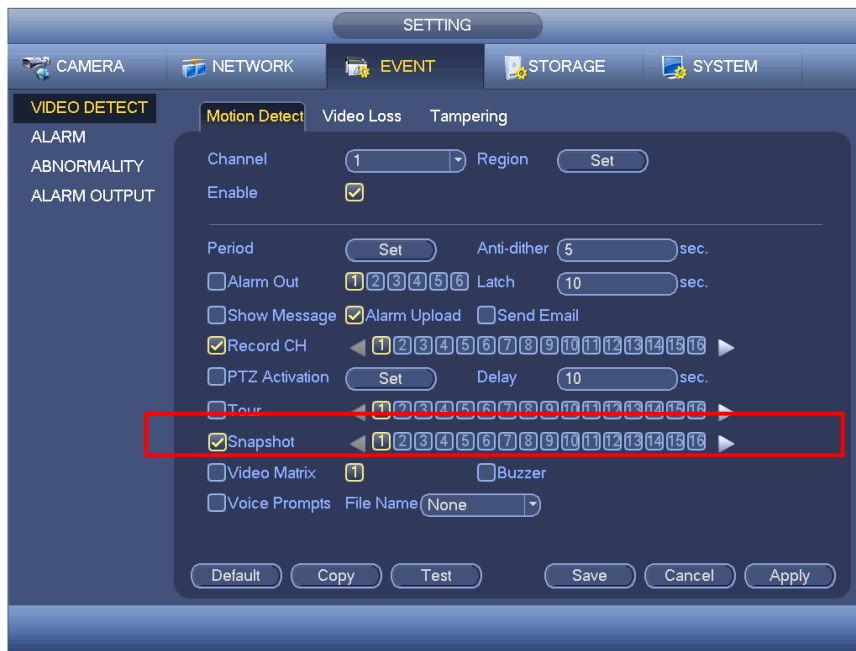
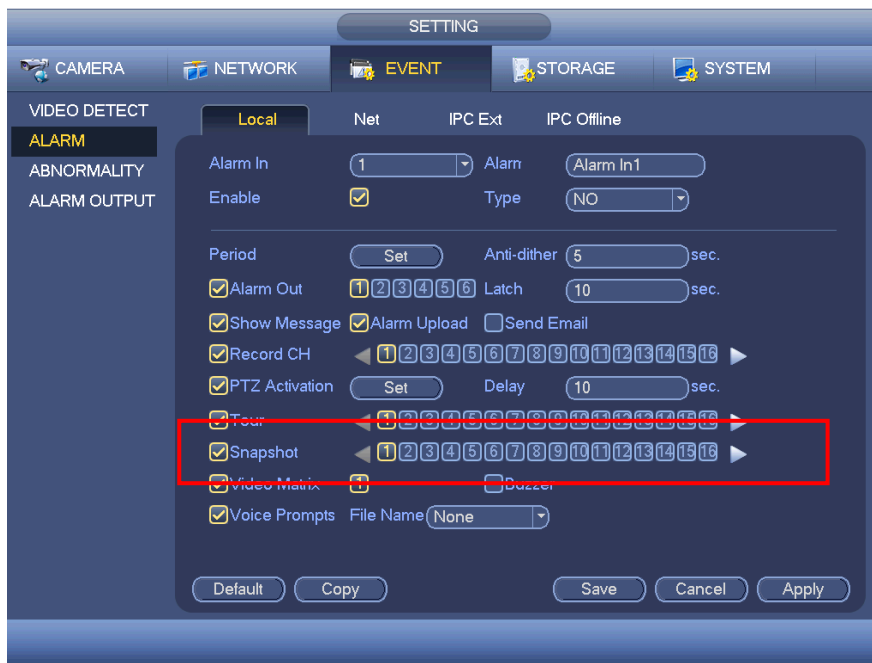

Figure 4-117
Figure 4-118
- In main menu, from Setting->Event->Detect, please enable snapshot function for specified channels (Figure 4-117). Or In main menu, from Setting->Event->Alarm (Figure 4-118) please enable snapshot function for specified channels.